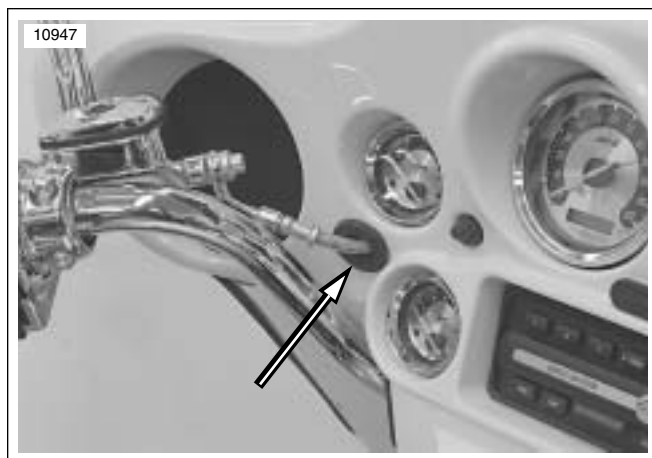

Figure 2-38. Clutch Fluid Line Inner Fairing Grommet
9. See Figure 2-38. Carefully pull banjo fitting end of clutch fluid line out through inner fairing grommet.